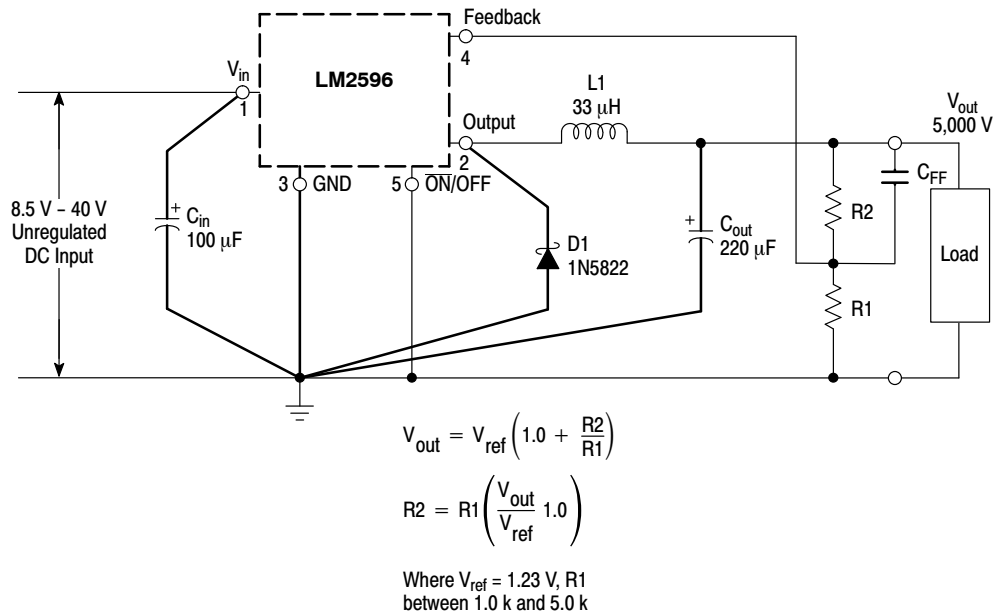

Figure 15. Typical Test Circuit
| LM2596 (Note 1, Test Circuit Figure 15)   |               |                      |            |                      |               |
- External components such as the catch diode, inductor, input and output capacitors can affect switching regulator system performance. When the LM2596 is used as shown in the Figure 15 test circuit, system performance will be as shown in system parameters section.
TYPICAL PERFORMANCE CHARACTERISTICS (Circuit of Figure 15)
## TYPICAL PERFORMANCE CHARACTERISTICS (Circuit of Figure 15)
As in any switching regulator, the layout of the printed circuit board is very important. Rapidly switching currents associated with wiring inductance, stray capacitance and parasitic inductance of the printed circuit board traces can generate voltage transients which can generate electromagnetic interferences (EMI) and affect the desired operation. As indicated in the Figure 15, to minimize inductance and ground loops, the length of the leads indicated by heavy lines should be kept as short as possible.